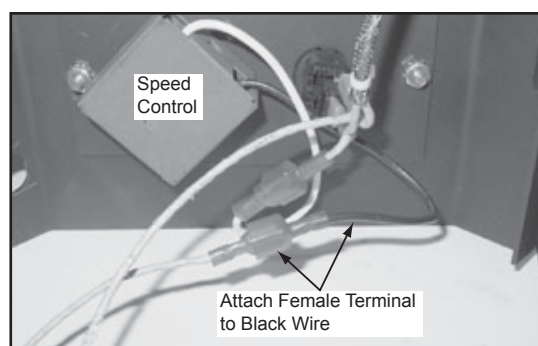

Figure 23.4
7. Attach the female spade terminal to the black wire that comes out of the speed control. **Figure 23.4.**